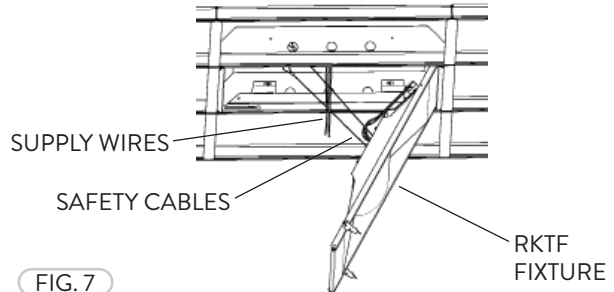

FIG. 7
- 5 Hook the Safety Cables into the holes of the Existing Housing. Attach the supply wires (Fig. 7). Please refer to the wiring diagram.